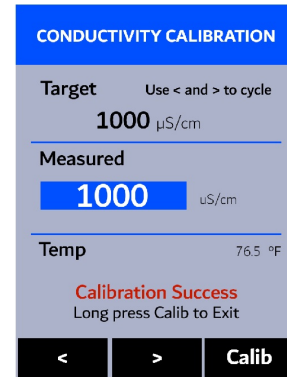

Figure 8.
9. The message “**Calibration Success**” will appear towards the bottom of the display (Figure 8).